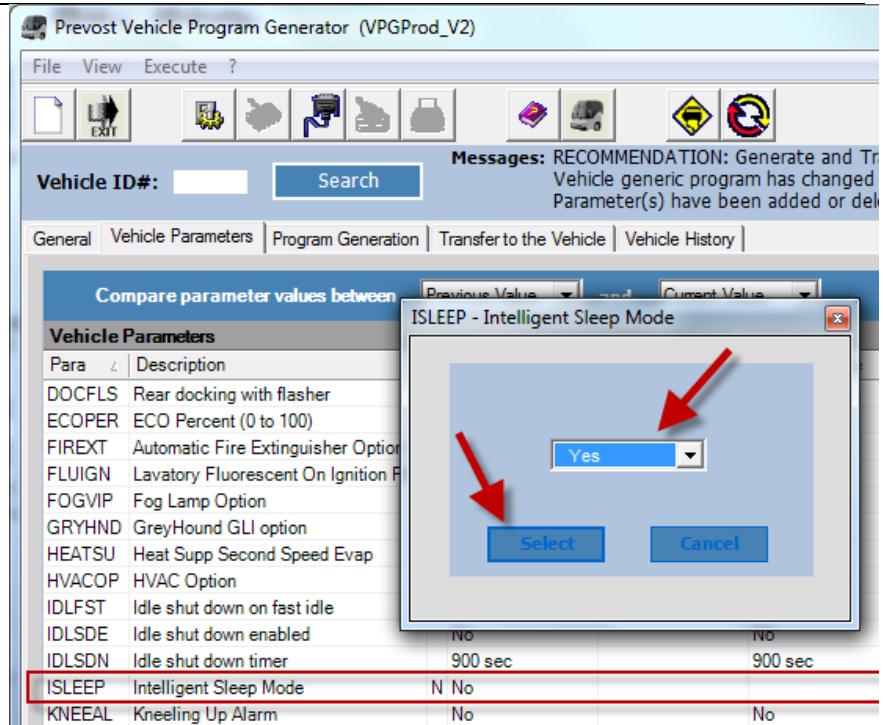

FIGURE 9: ISLEEP PARAMETER
13. Re-install the I/OB modules. (Figure 9)